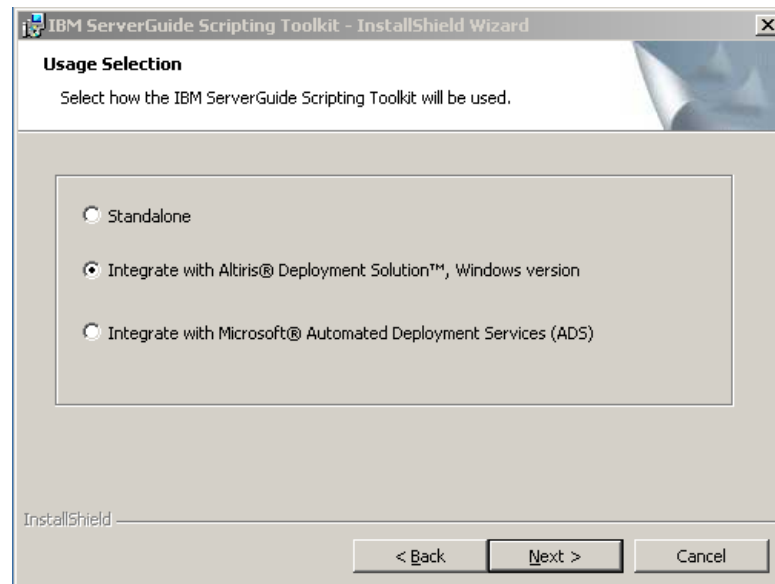

Figure 2-16 SGTK Usage selection window
1. Double-click the executable to initiate the install process. After the usual welcome and license agreement screens, you will see Figure 2-16 on page 30, the Usage Selection window. To integrate with Deployment Solution,